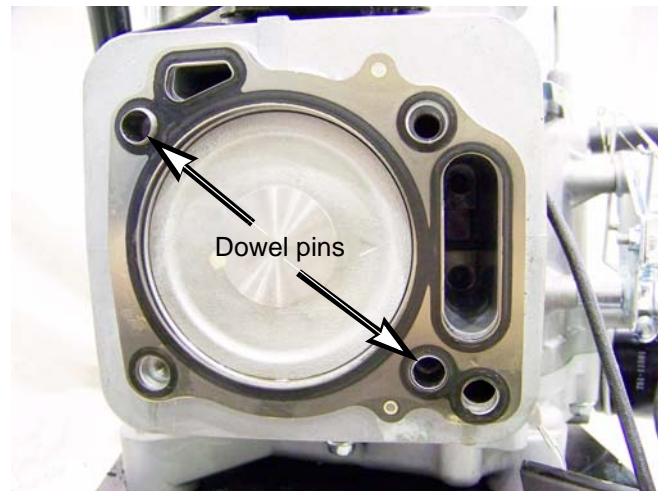

Figure 9.7
1. Place a new head gasket on the cylinder, allowing the alignment dowels to hold it in place. See Figure 9.7.